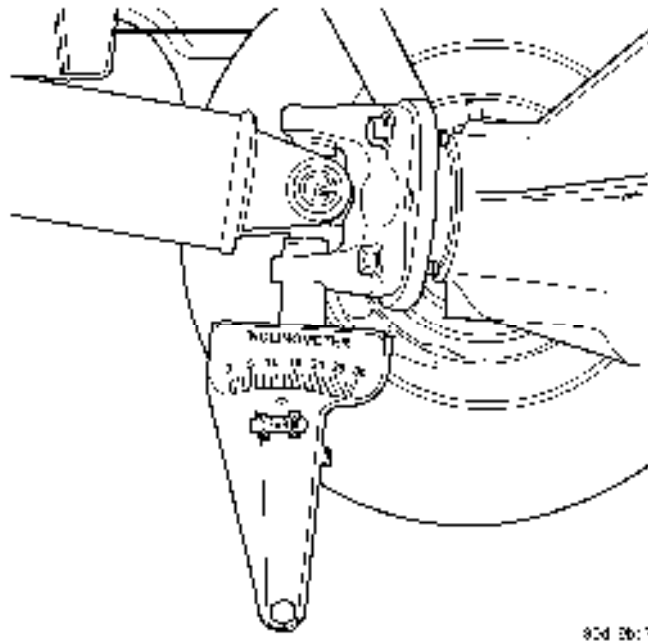

Fig. 3 PINION ANGLE
8. Rotate propeller shaft 90 degrees and place inclinometer on rear axle pinion flange yoke bearing parallel to the shaft(Fig. 3). Center the bubble in sight glass and record measurement.